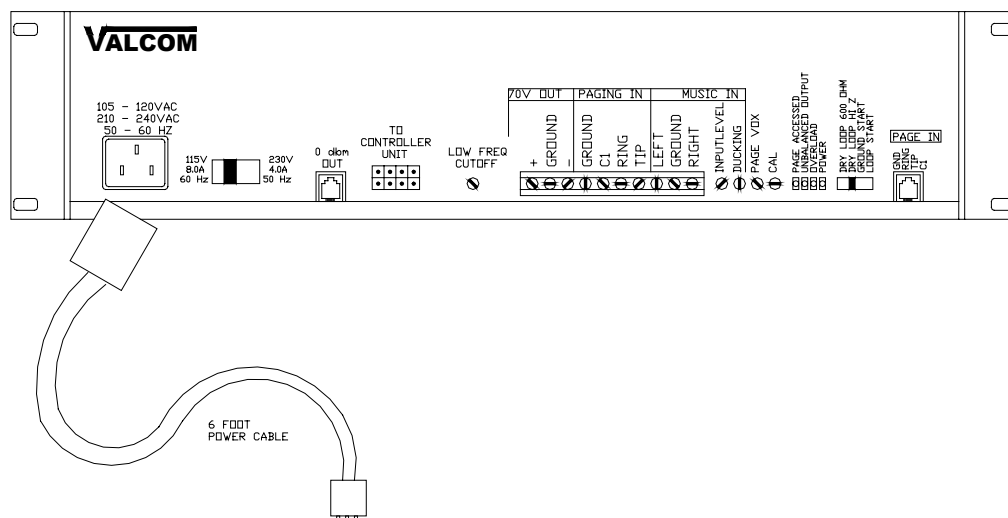

Figure 8.
6. Insert power cord into AmpliCenter and into wall outlet (page 6 - Figure 8).